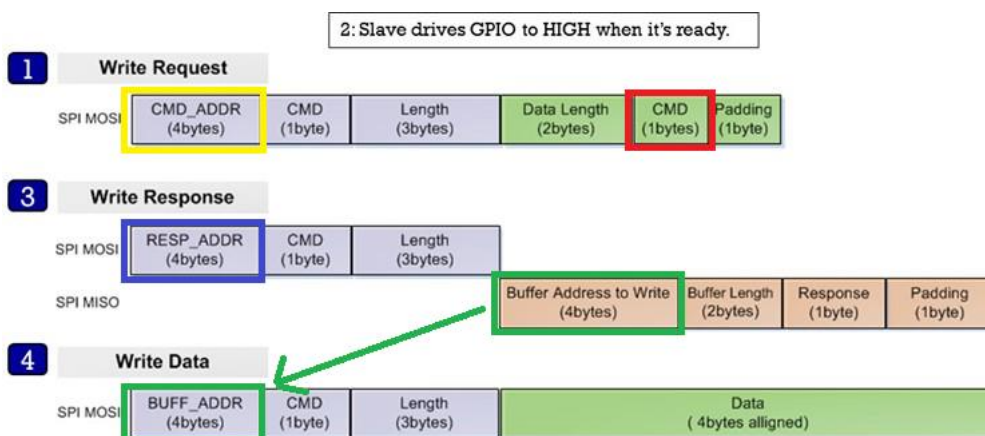

Figure 3. Write operation structure
1. The Host sends a WRITE_REQ command (0x80, red rectangle in Figure 3) to the General Command address (0x50080254) (yellow rectangle in Figure 3).
3. The Host reads the Write Response message by Response Command address (0x50080258, blue rectangle in Figure 3) and parse it using struct `_st_host_response` (see Section 1.2.2).
4. The Host sends data to address (BUFF_ADDR) which is received from the Slave in the Write Response message (green rectangle in Figure 3).